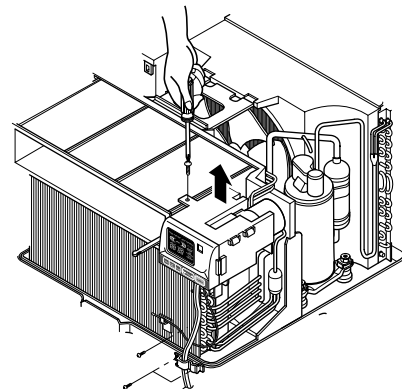

Figure 3
11. Raise the control box upward. (See Figure 3)